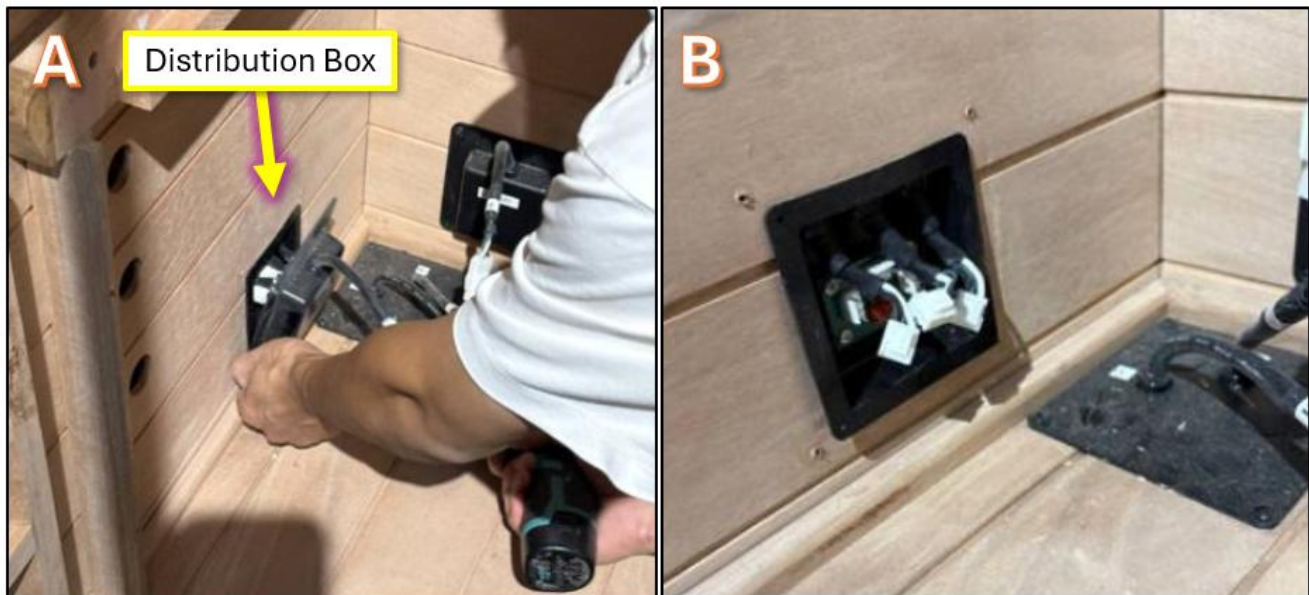

Figure 3. Screws hold the cover of the distribution box in place (Image A). Distribution box with panel connectors unplugged (Image B).
- 4.1. Remove the screws holding the cover of the distribution box and set aside the cover to expose the circuit board (Figure 3).